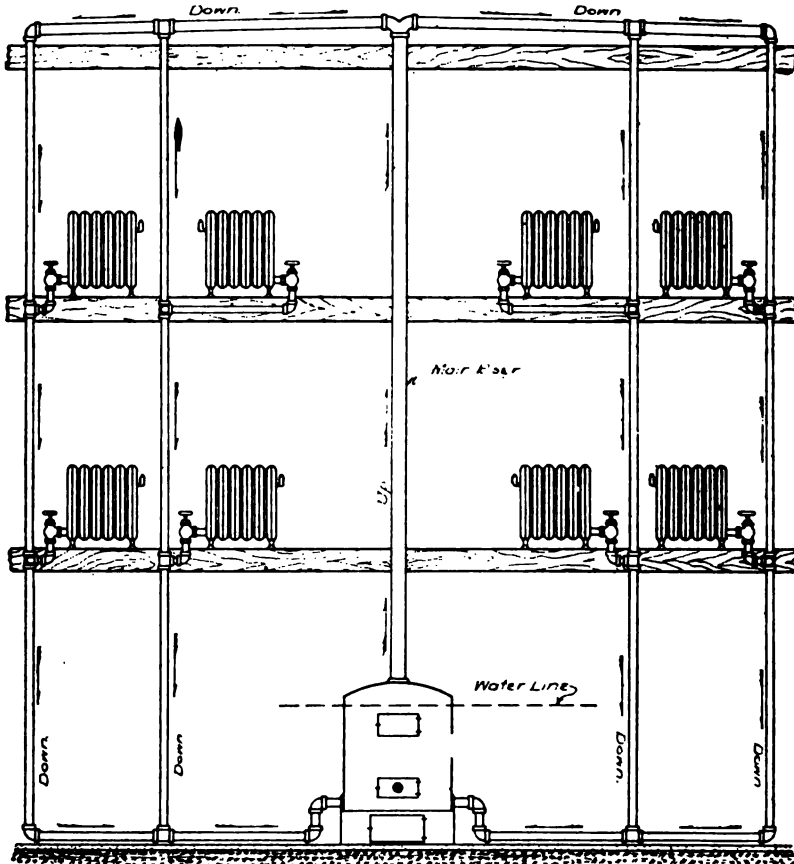

Fig. 25.—The Overhead or "Mills" System of Steam Heating.
A. The overhead or Mills system takes its name from the fact that the main is taken upward through the building to the attic or top of the system and all risers or connections to radiators are supplied by drop risers from above, all drips from risers and returns from radiators being connected into the main returns which are run in the basement. This system was adopted by John H. Mills, who was a prominent engineer and heating man in the early days of steam and hot water heating, and therefore is known as the Mills system. As all steam and water flow in the same direction there is little friction and the system is therefore considered very efficient and serviceable for any building to which it can be adapted. Fig. 25.